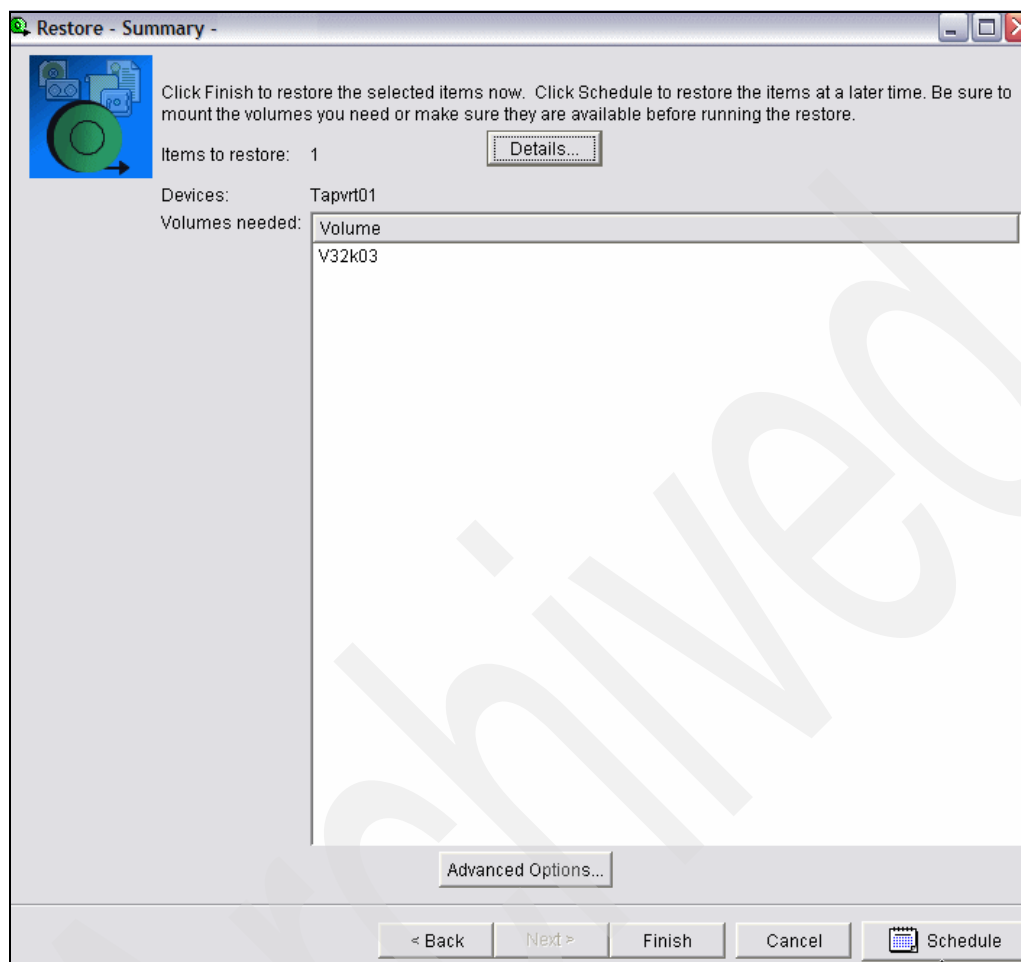

Figure 7-73 BRMS restore, summary
8. There is one more thing to verify, before finishing the task. Click **Advanced Options** in the Restore Summary window shown in Figure 7-73 on page 400 to do so.
10. This brings you back to the Summary page shown in Figure 7-73 on page 400. Since you have nothing more to add, click **Finish**.